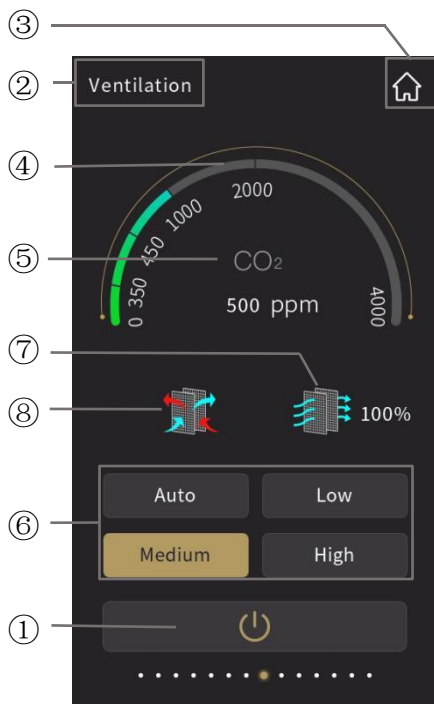
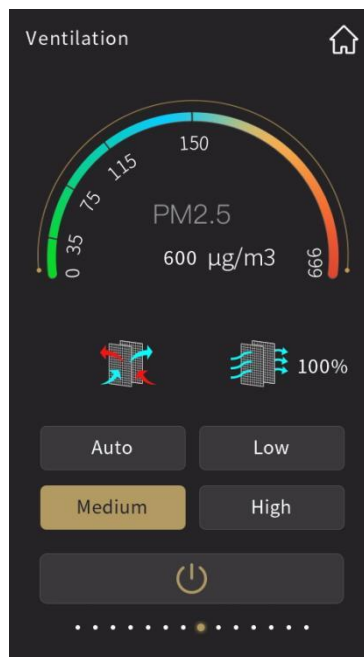
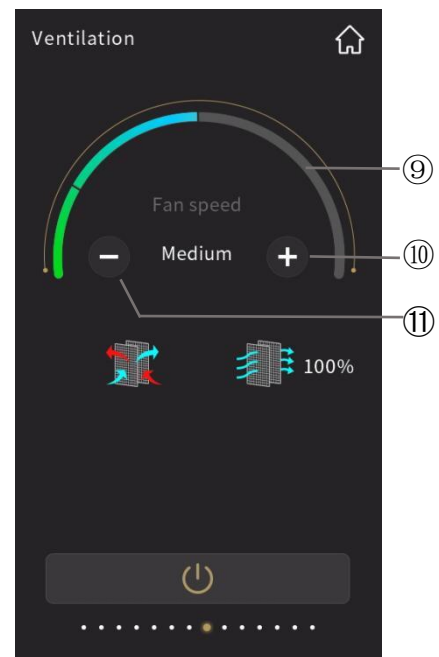

Fig.2.6.1
Fig.2.6.2
Fig.2.6.3
Only when auto fan speed control of ventilation system is enable would this interface display, as shown in Fig.2.6.1 and Fig.2.6.2.
CO₂ concentration as shown in Fig.2.6.1, according to the value received from the bus, range 0~4000ppm; if the data exceed 4000ppm, then the interface will display 4000ppm.
PM_{2.5} concentration as shown in Fig.2.6.2, according to the value received from the bus, range 0~999ug/m³; if the data exceed 999ug/m³, then the interface will display 999ug/m³.
There is up to 4 options for fan speed mode: Auto, Low, Medium and High. When fan speed auto control is enable, auto fan speed adjustment will be displayed on the interface, shown as Fig.2.6.1 and Fig.2.6.2. Whether fan speed auto control is enable or not is configured through parameter configuration.
⑦ This icon is the filter timer icon;
Whether the filter timer counter function is enable or not is configured through parameter configuration. When disable, there will be no display of filter timer counter function on the interface as shown in Fig.2.6.1; when enable, icon⑦ will be colorful after ventilation system ON, the remaining
⑧ This is the heat recovery icon, used to turn on or off heat recovery function;
Whether heat recovery function of ventilation system is enable or not is configured through parameter configuration. When disable, there will be no display of heat recovery function on the interface as shown in Fig. 2.6.1; when enable, heat recovery function is turned on by default when ventilation system is ON, and the heat recovery function can be turned on or off by touching icon⑧. The icon on indicates that the heat recovery is on; the icon off indicates that the heat recovery is off. In addition, heat recovery function can be turned on or off through the bus. And there would be no responding after enable heat recovery function.
⑨ This ring bar displays specific fan speed level;
⑩ To increase fan speed level by touching this icon;
⑪ To decrease fan speed level by touching this icon.
When fan speed is not configured as auto, as shown in Fig.2.6.3, by touching icon⑩ and icon⑪ to adjust fan speed; for each touch of icon⑩ and icon⑪ to adjust one level, there are 3 modes of fan speed: Low, Medium and High. At this time, the adjustment is manually, not automatically according to the concentration of CO2 or PM2.5.